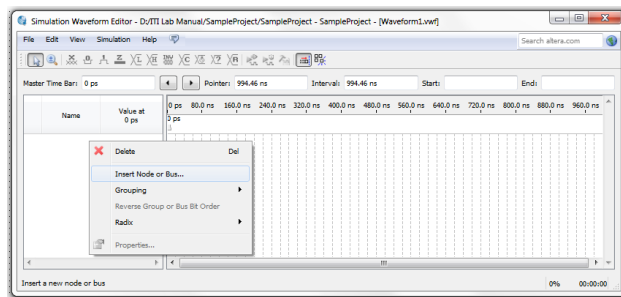

Figure 4.5.3: Accessing Node Finder
4. Select Insert Node or Bus (Figure 4.5.3).